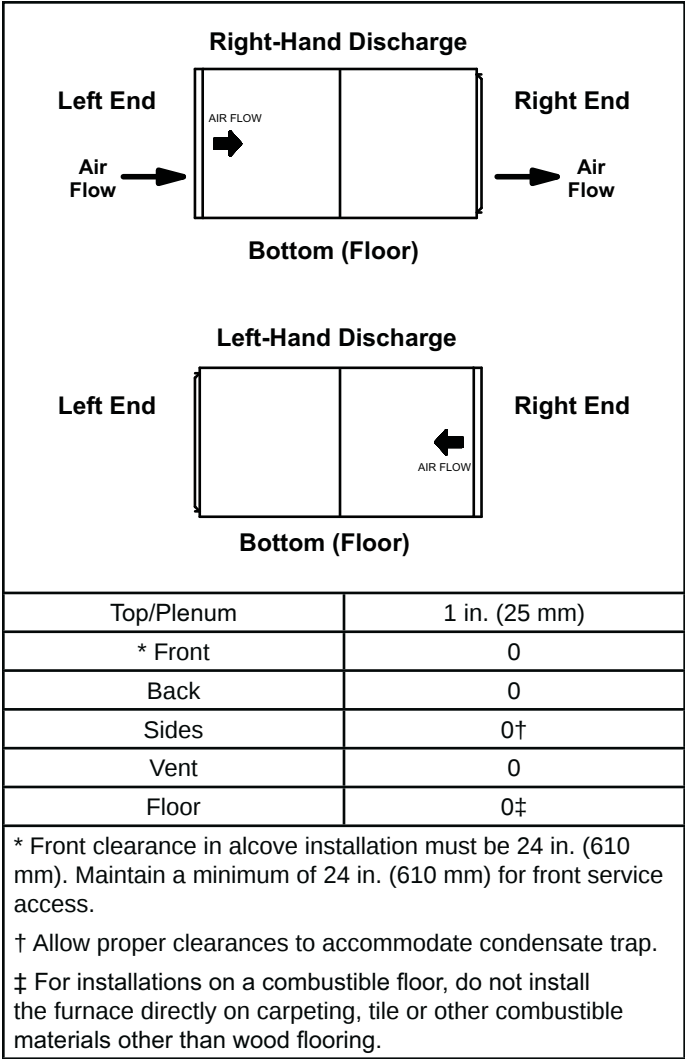

Figure 11. Installation Clearances
Refer to Figure 11 for clearances in horizontal applications.
1. Select location for unit keeping in mind service and other necessary clearances. See Figure 11.